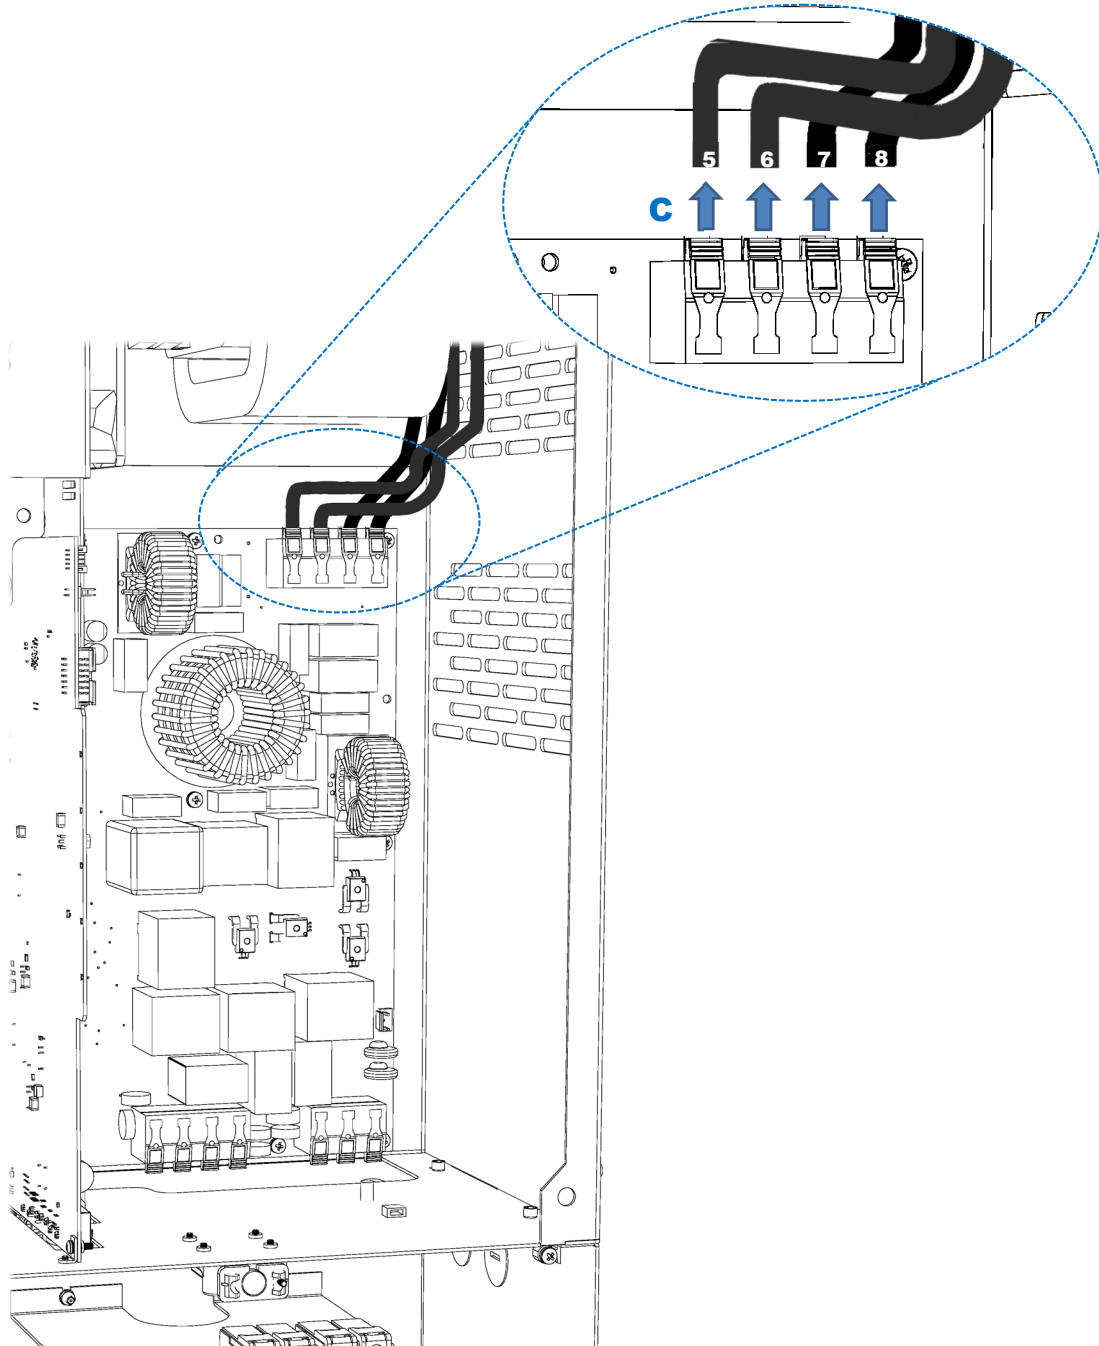

Figure 40 Transformer Terminals
Unclip all wires from the transformer terminals. See **C** in Figure 40. .
- ❖ Mark or note the wire positions so that they can be reinstalled correctly. The four wires are marked with numbers 5 through 8. They are installed in the positions shown in Figure 40. The terminals, however, are not marked.
- Replace the transformer wires **C**. Make certain to observe the correct wire positions. See Figure 40 if necessary. Make certain that the wires are fully inserted and that no stray strands are exposed. After latching, tug on the wires to ensure that they are secure.